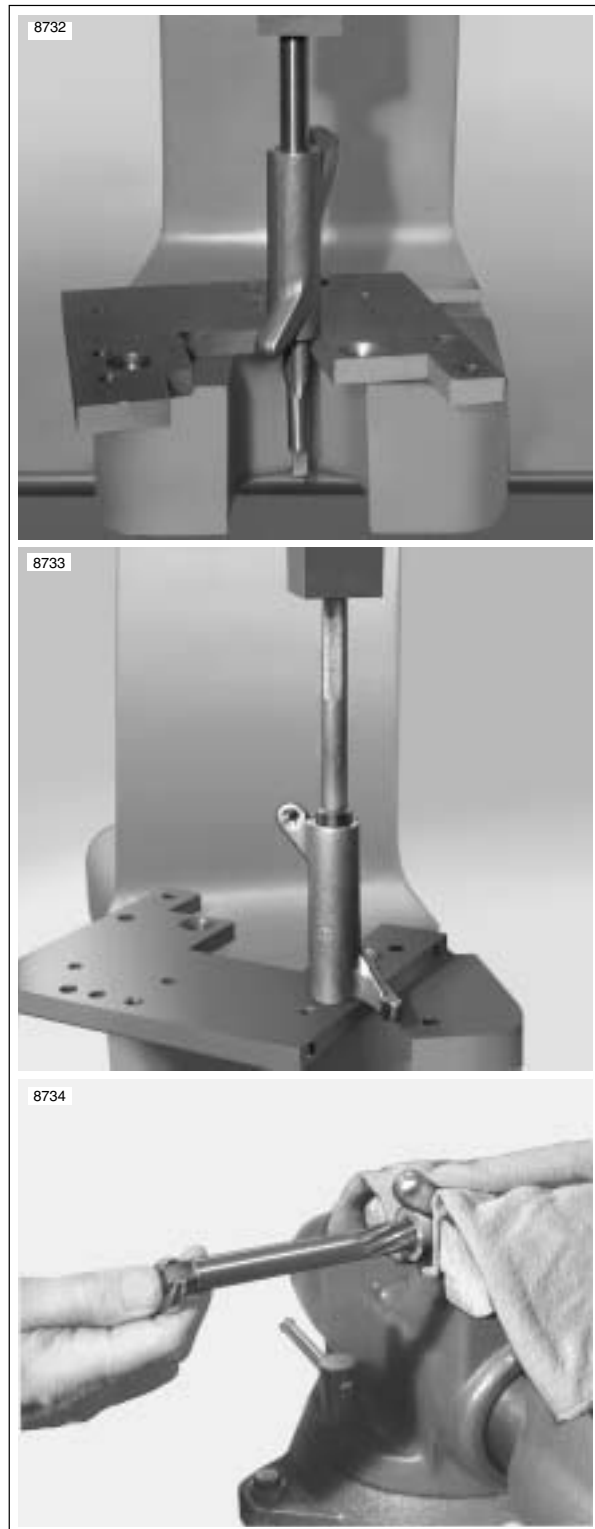

Figure 3-69. Replacing Rocker Arm Bushings
1. See Figure 3-69. To replace worn bushings, press or drive them from the rocker arm. If bushing is difficult to remove, turn a 9/16-18 tap into bushing. From opposite side of rocker arm, press out bushing and tap using a discarded rocker arm shaft.